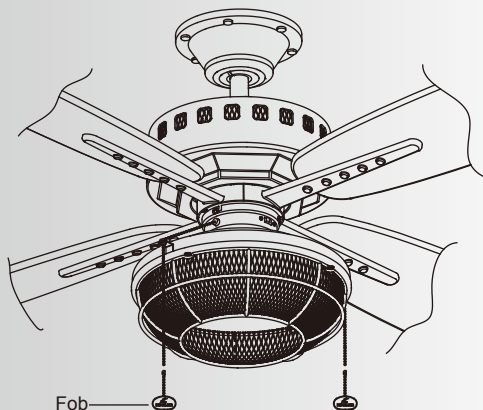

Fig. 26
Step 7. Attach each of the decorative fobs to the pull chains. (Fig. 26)